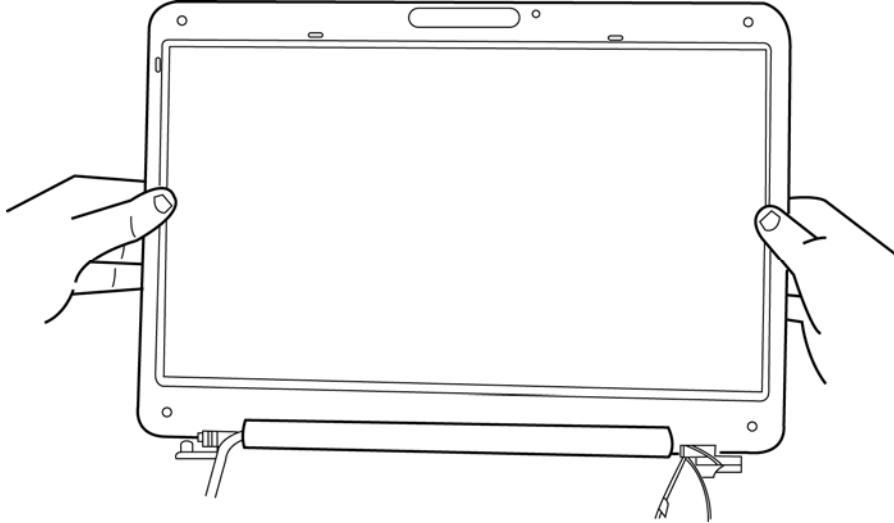

Figure 4.41 Pressing the left and right side of the bezel
5. Press the left and right side of the bezel as shown in Figure 4.41.